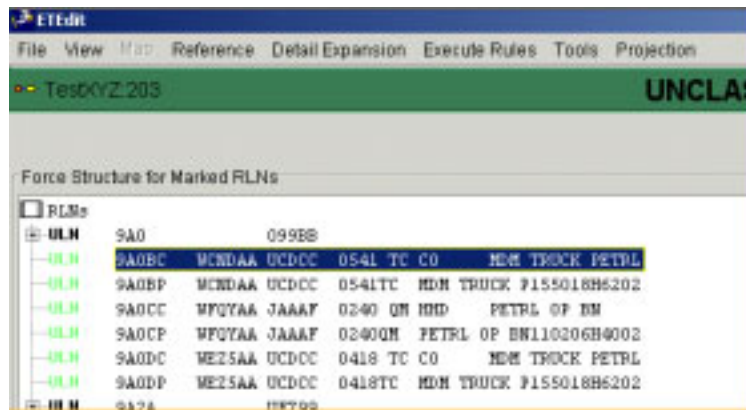

Figure 5.220 ETEdit (Main) Window (RLN IDs)
1. Look for an RLN that has a “C” in the fifth position of the RLN ID and another with a “P” in the fifth position of the RLN ID (Figure 5.220—highlighted item).